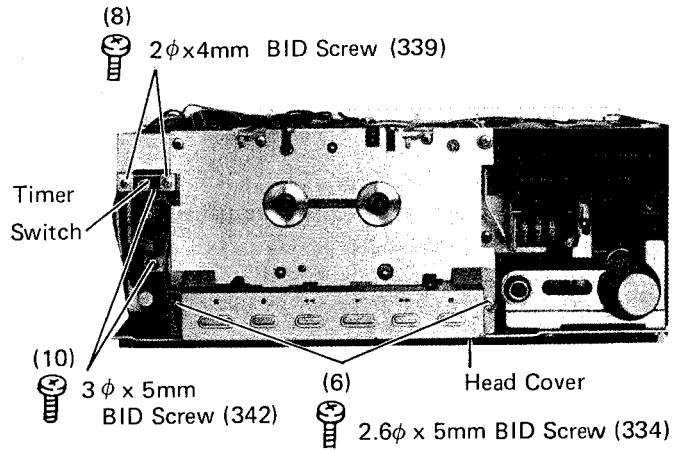

Figure 21.
1. Remove two screws (6) holding the head cover as shown in Figure 21.
1. Remove two screws (8) holding the timer switch as shown in Figure 21.
3. Remove two screws (10) and one screw (11) holding the power supply P.C. Board (2/2) as shown in Figure 21 and 23.